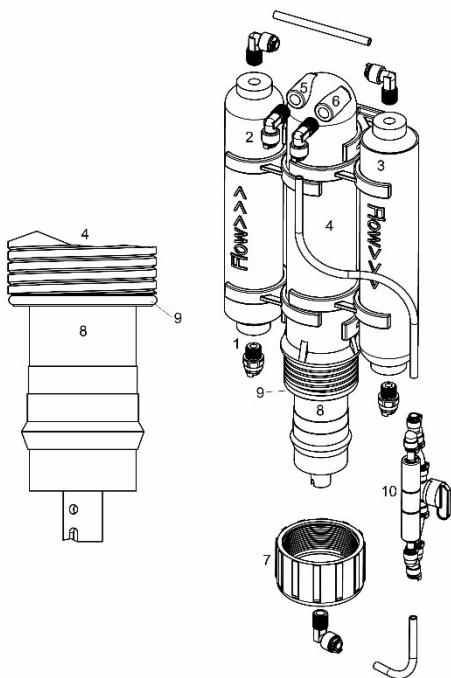

Fig. 1:
The connections of the unit are (please refer to Fig. 1):
Remove the screw cap of the module housing (Fig. 1, No. 4). Take the membrane out of the plastic bag and put it into the reverse osmosis module. Take care to insert the membrane in the right direction (Fig. 2, No. 2) with both sealings (Fig. 2, No. 1) directed to water outlet. The membrane has to be pushed forward until the 2 sealings are in the right position at the top and the pure water sealing (Fig. 2, No. 3) is fixed. Before the housing can be closed, check whether the O-ring (Fig. 1, No. 9) is mounted on the module's housing.
- **Rinsing:** For rinsing the membrane, the flush valve (Fig. 1, No. 10) has to be opened (tap parallel to the direction of flow). Then, the water flows at full speed through the reverse osmosis module and flushes most contamination and residues. The tap has to be closed again for the osmosis water production (tap across the direction of flow).